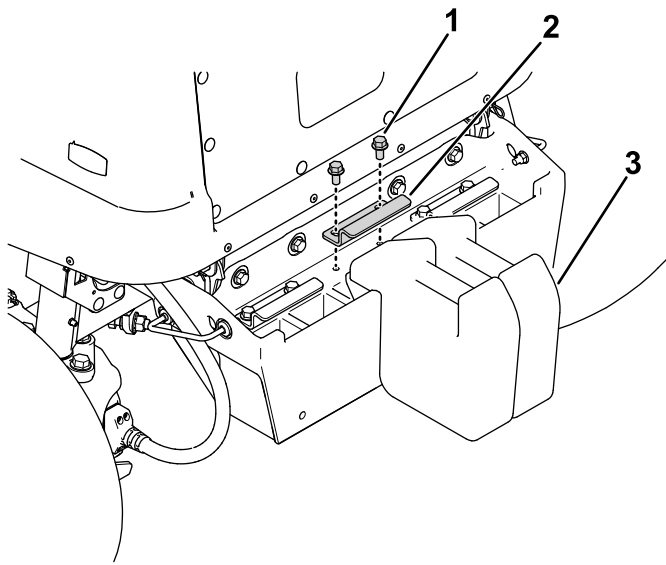

Figure 15
1. Loosen the bolts (Figure 15) that secure the weight retainer bracket to the bumper.
2. Add 2 weights to the bumper as shown in Figure 15.
3. Use the bolts and the weight retainer bracket (Figure 15) to secure the weights to the bumper.